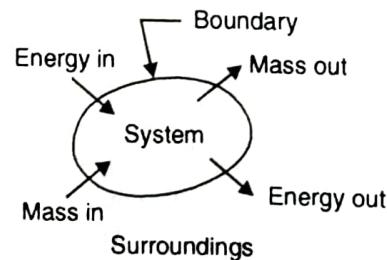

Fig. 1.5 An open system
2. Open System: In an open system, **the mass as well as the energy transfer across its boundaries may take place.** Such an open system is shown in Fig. 1.5. Most of the thermodynamic systems are of the open type. Some examples of open systems are :